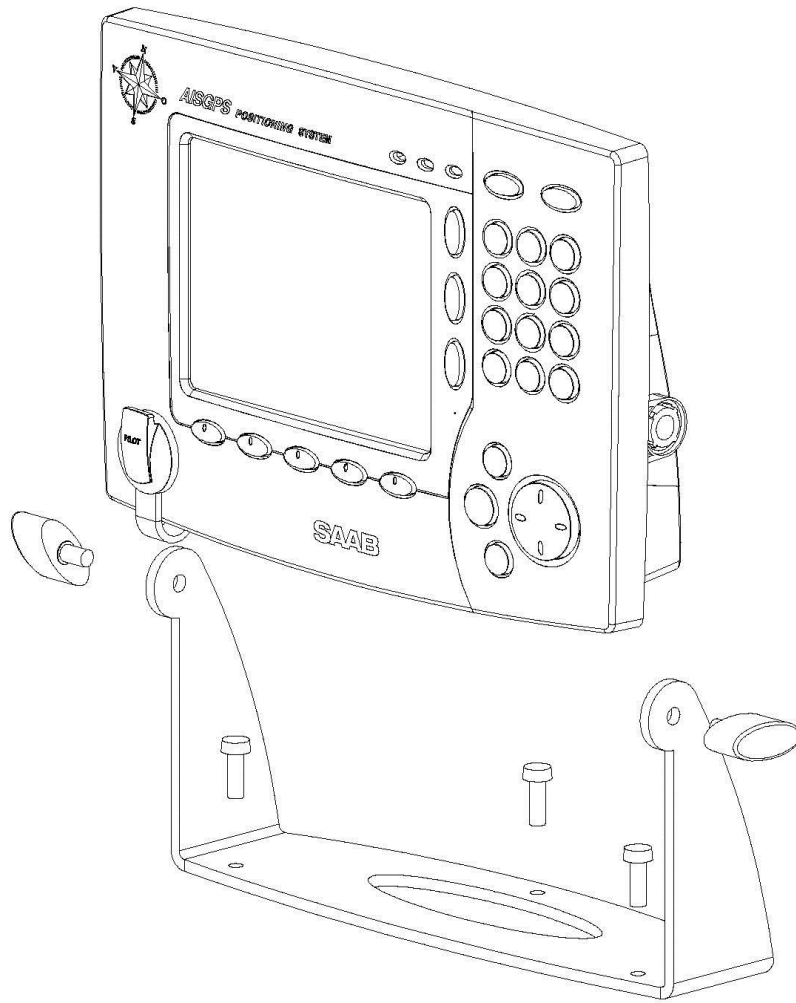

Figure 4-4: Gimbal mount
2. Fasten the gimbal mount on a flat surface with three screws, see Figure 4-4 below. The type of screws has to be chosen considering the panel material. Note that the slots on the end of the gimbal mount have to face the direction in which the R4 Display is to be mounted.